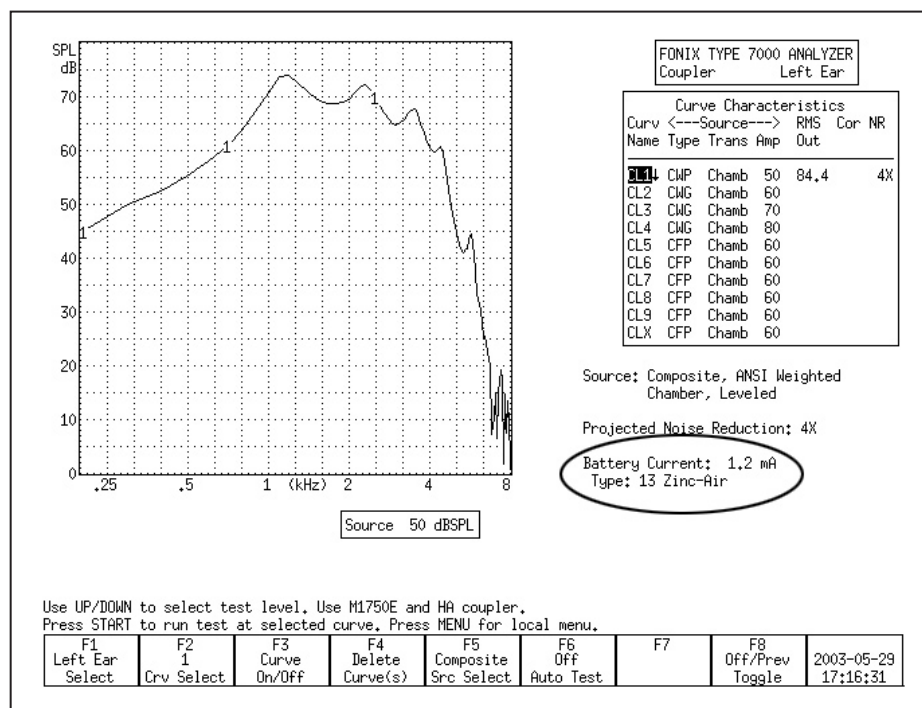

Figure 3.4.9—Battery Current Drain
8. Press [EXIT] to return to the Coupler screen. You should now see the battery current drain measurement below the Curve Characteristics box. See Figure 3.4.9.